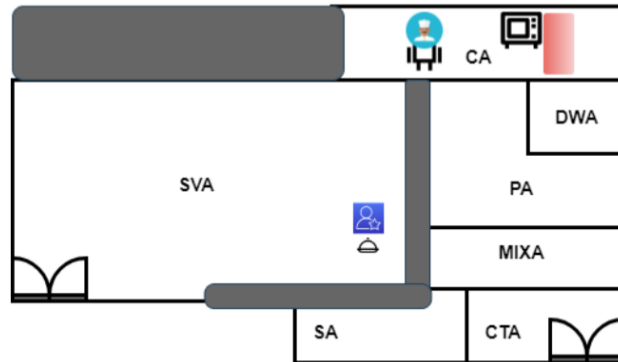

Figure 1: Restaurant structure. Gray areas means that the robot can not move in these areas.
Regarding the distribution of the restaurant where the robot works, it consists on seven rooms displaced as it is shown in the Figure 1. The rooms are: preparation area (PA), cooking area (CA), serving area (SVA), dishwashing area (DWA), mixing area (MIXA), cutting area (CTA) and storage area (STA).